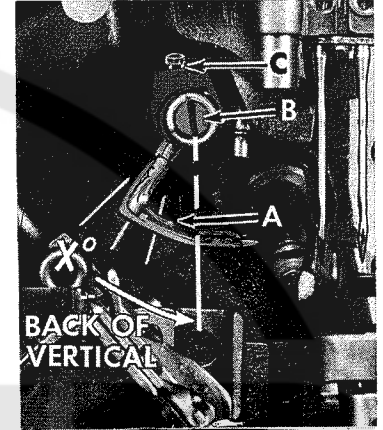
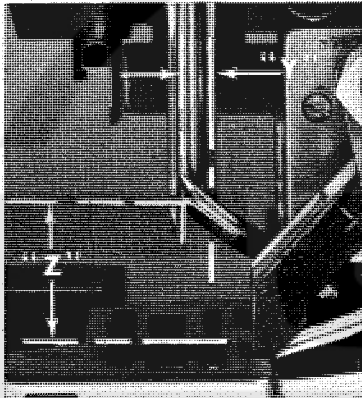

Fig. 10
Fig. 11
Insert upper looper or spreader (A, Fig. 10) in its holder. Screw (B) holds the looper or spreader in its holder and permits looper or spreader to be pushed in or out, or turned around its shank. Screw (C) in the collar holds the holder in the shaft and allows the holder to be rotated or adjusted laterally.
| Machine Styles | (Fig. 10) "X" Approximate Degrees Shank Back of Vertical | (Fig. 11) "Y" Spreader's Lower Point to Left of Centerline of Right Needle | (Fig. 11) "Y" Looper Point to Left of Center- line of Right Needle | (Fig. 11) "Z" Height Above Throat Plate |
When looper or spreader is at the right end of its stroke, the holder should be set to position the looper or spreader shank approximately "X" degrees back of vertical and flush with the top of holder (Fig. 10) on all Styles except 39800 CA, CB; and approximately 1/16 inch (1.59 mm) above the holder on Styles 39800 CA, CB. On later machines with the new looper/spreader holder (See Fig. 10 A), settings are the same for "X", "Y", and "Z" except for location of shank with respect to top of holder. This setting should be approximately 1/32 inch (.79 mm) above holder on all Styles except 39800 CA, CB, and approximately 3/32 inch (2.38 mm) above the top of holder on Styles 39800 CA, CB. These settings may vary depending on needle size. NOTE: Lines in bed casting represent 15, 30 and 45 degrees back of vertical. CAREFULLY set looper or spreader point to cross lower looper to the left of lower looper eye with approximately .002 inch (.051 mm) clearance. At extreme left end of travel the looper point or the lower point of the spreader should be set "Y" dimension to the left of the centerline of the right needle and "Z" dimension above throat plate (Fig. 11).